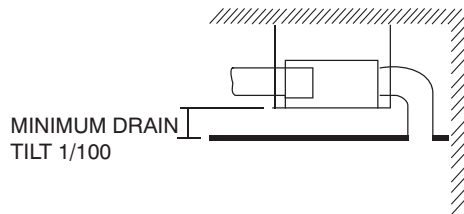

Fig. 8 —False Ceiling Installation
- There should be enough room within the false ceiling for installation and maintenance. See Fig. 8.